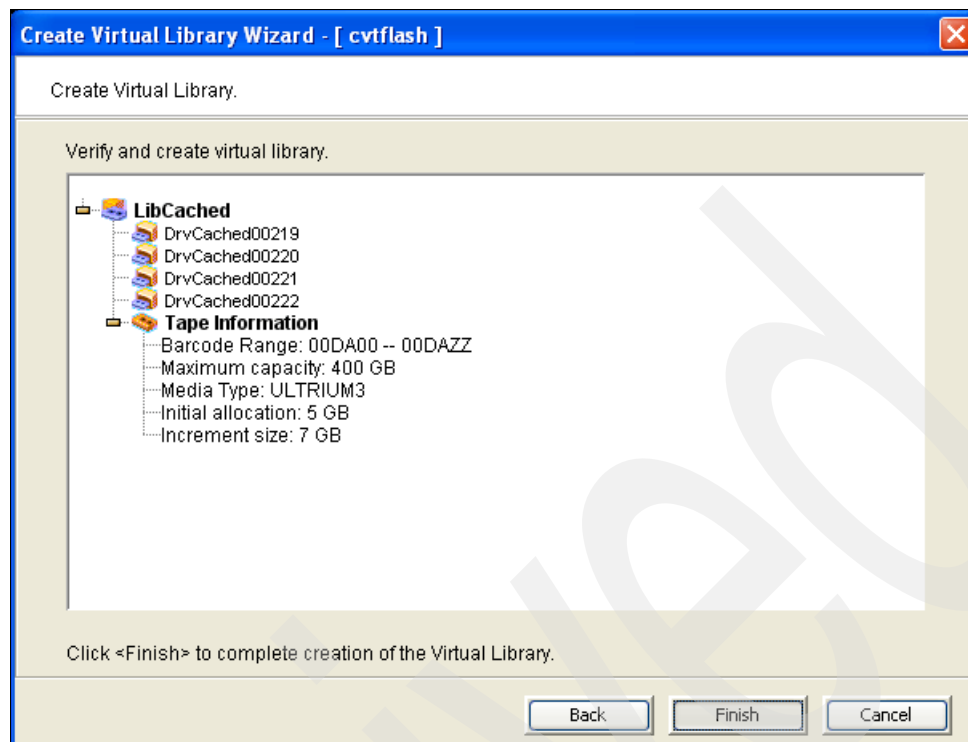

Figure 6-97 Cached virtual library creation: Confirm library configuration
11. Verify the library configuration (Figure 6-97 on page 242). Click **Finish** to create the library.